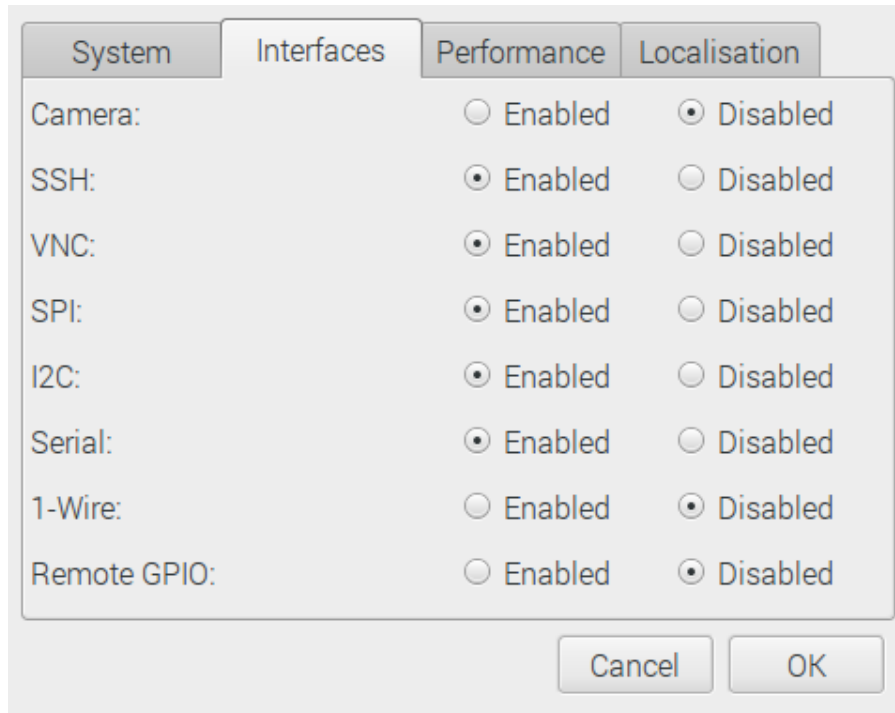

Figure 7: Raspberry Pi interface configuration
1. Next, the peripherals have to be enabled. To do so open the menu by clicking on the Raspberry Pi symbol on the left upper corner of the screen and open the **Preferences** → **Raspberry Pi Configuration** window (see figure 7). Enable the SPI, I²C and SERIAL interface.